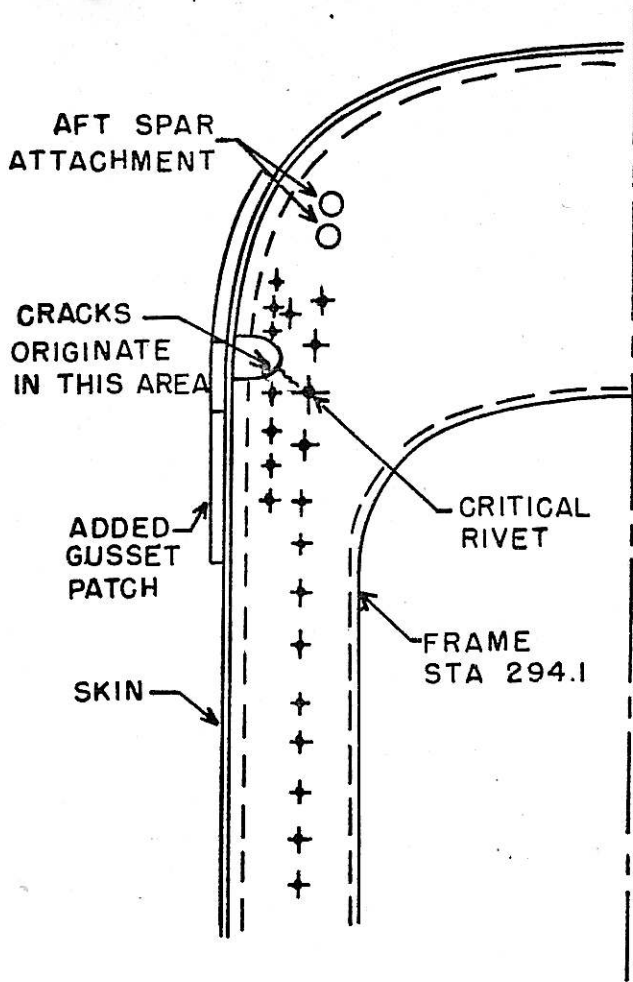

FIG. 1
2. If a crack is visible at either side of the frame, determine if it has extended beyond the critical rivet (see Figure 1) if so, it is necessary to apply paragraph 3, otherwise proceed as follows immediately.